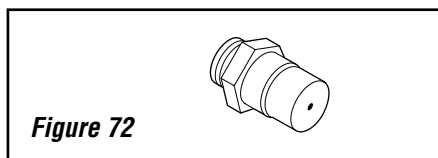

Figure 72
A. Remove the orifice from the manifold and replace it with the one provided in the kit. The following table shows the orifice sizes for natural and propane models. **Figure 72** illustrates the orifice. Always check and verify correct orifice size.